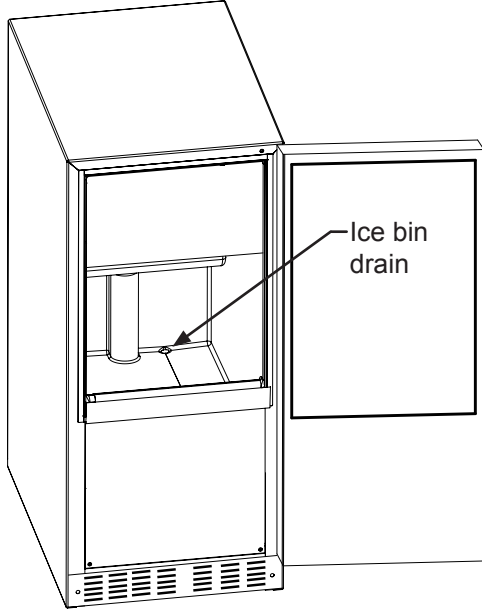
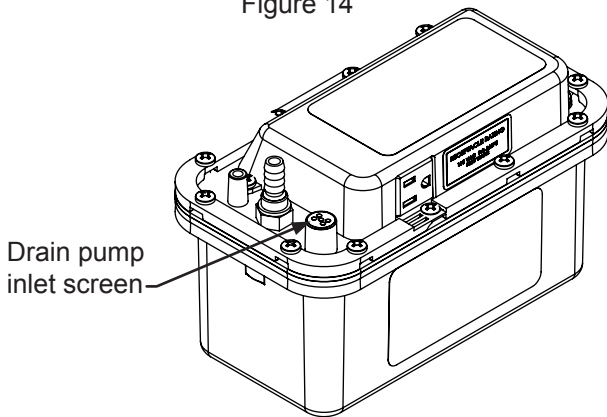

Figure 14
Figure 15
- Check that the ice bin drain inside the cabinet is open and free of foreign material which would block water flow to the drain pump, see Figure 14.
- Check that the inlet tubing from the ice machine drain valve to the drain pump is open and free of foreign material. Inspect the screen at the top of the inlet tube to ensure there is nothing blocking the water flow to the pump, see Figure 15.
- Check the ice bin drain (see Figure 14) and the drain pump inlet screen (see Figure 15) for debris and clean as needed.